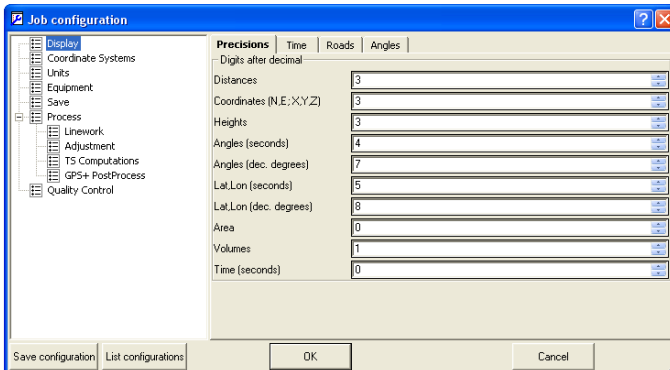

Figure 2-11. Job Configuration – Precisions Tab
- The **Precisions** tab (Figure 2-11) sets the viewing number of digits after the decimal for the various measurements.